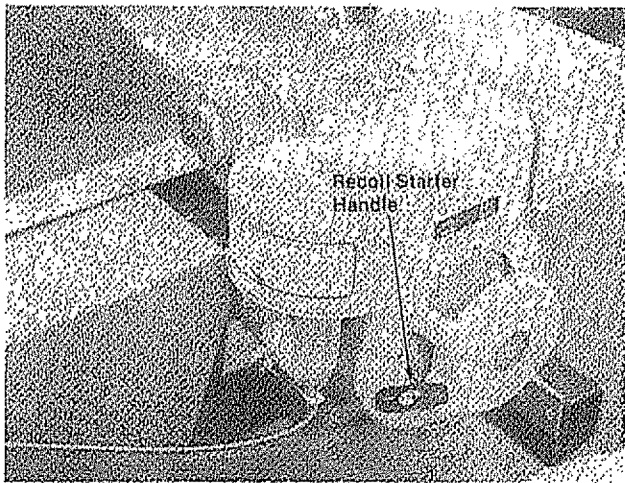

FIGURE 29.
6. Stand at side of tiller, grasp the starter handle and pull out rapidly. Return it slowly to the engine. Repeat as necessary. See figure 29.